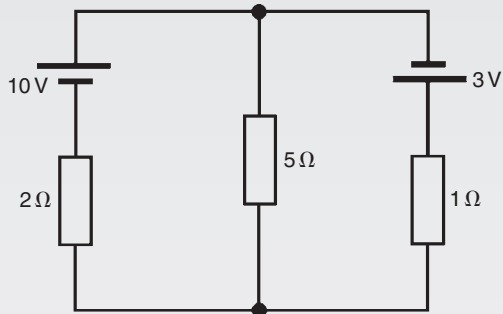

Figure RT4.1
1. Find the current flowing in the 5Ω resistor of the circuit shown in Fig. RT4.1 using (a) Kirchhoff's laws, (b) the superposition theorem, (c) Thévenin's theorem, (d) Norton's theorem. Demonstrate that the same answer results from each method.